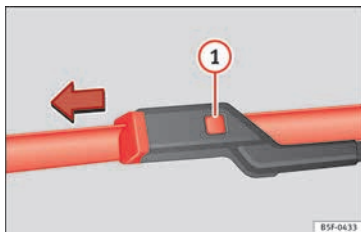

Fig. 81 Changing the windscreen wiper blades
- Press and hold release button » **Fig. 81 ❶** and pull gently on the wiper blade in the direction of the arrow.